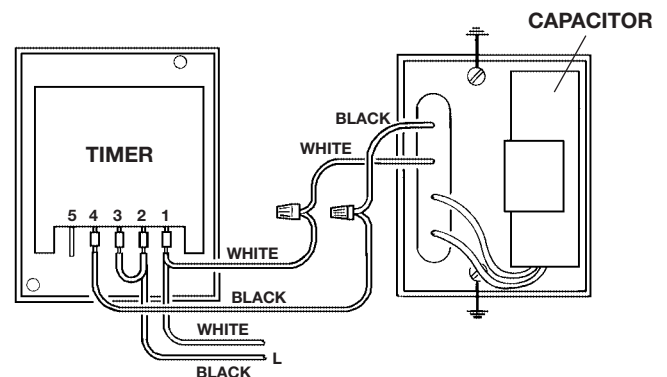

FIGURE 2
8. Make the electrical connections according to the wiring diagram provided. (See Figure 2)